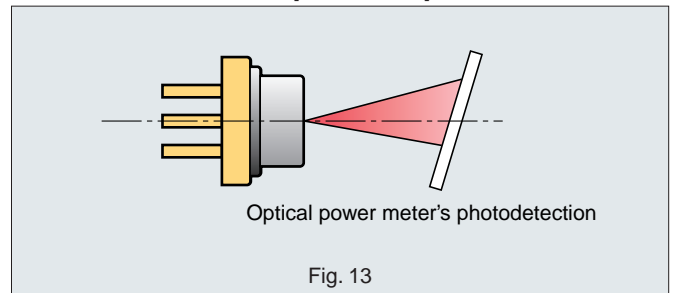

Fig. 13
■ **Measurement of optical output** (Fig. 13)